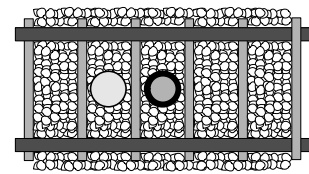
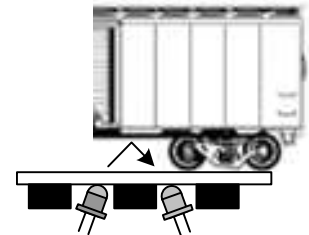

Figure 7a
Figure 7b
With this sensor mode and physical arrangement a train is detected when the infrared (IR) beam is reflected on the underside of the train. The IR components should be mounted between the rails. Drill two 11/64" holes, through the ballast, roadbed, and sub-roadbed. These holes should be located **one tie apart** (Figure 7a) and drilled at a **slight angle from vertical** towards each other as illustrated in the side view in Figure 7b. The benefit of mounting them at an angle is increased detection reliability in smaller scales or irregular bottoms on rolling stock. For the smaller scales this drilling may end up hitting the ties. Take your time so you don't mangle them! Insert the leads of one IR emitter (white and black wires) into one of the holes (it doesn't matter which one!) from the top of your layout. Repeat for the IR detector (blue and black wires). **The tops of the components should sit no higher than the top of the ties for optimal IR performance;** in some cases (e.g. false triggering) it may be necessary to locate the components a little below the ballast line. You can extend the leads with similar (or larger) wire. We recommend soldering and insulating these connections. We also recommend using terminal blocks/strips since you'll have multiple connections to make. Once you have wired the IR components and verified their operation you may wish to put a dab of white glue or silicone caulk where the wires exit the holes underneath the layout. This will help to hold the components in place; make sure you don't get any substance (e.g. ballast or glue) on the top surface of the IR components as this may prevent them from operating properly. In extreme cases where you may be getting interference from overhead lighting you can mount the IR detector in some plastic or metal tubing. You can also recess the IR detector slightly below the ties and roadbed.